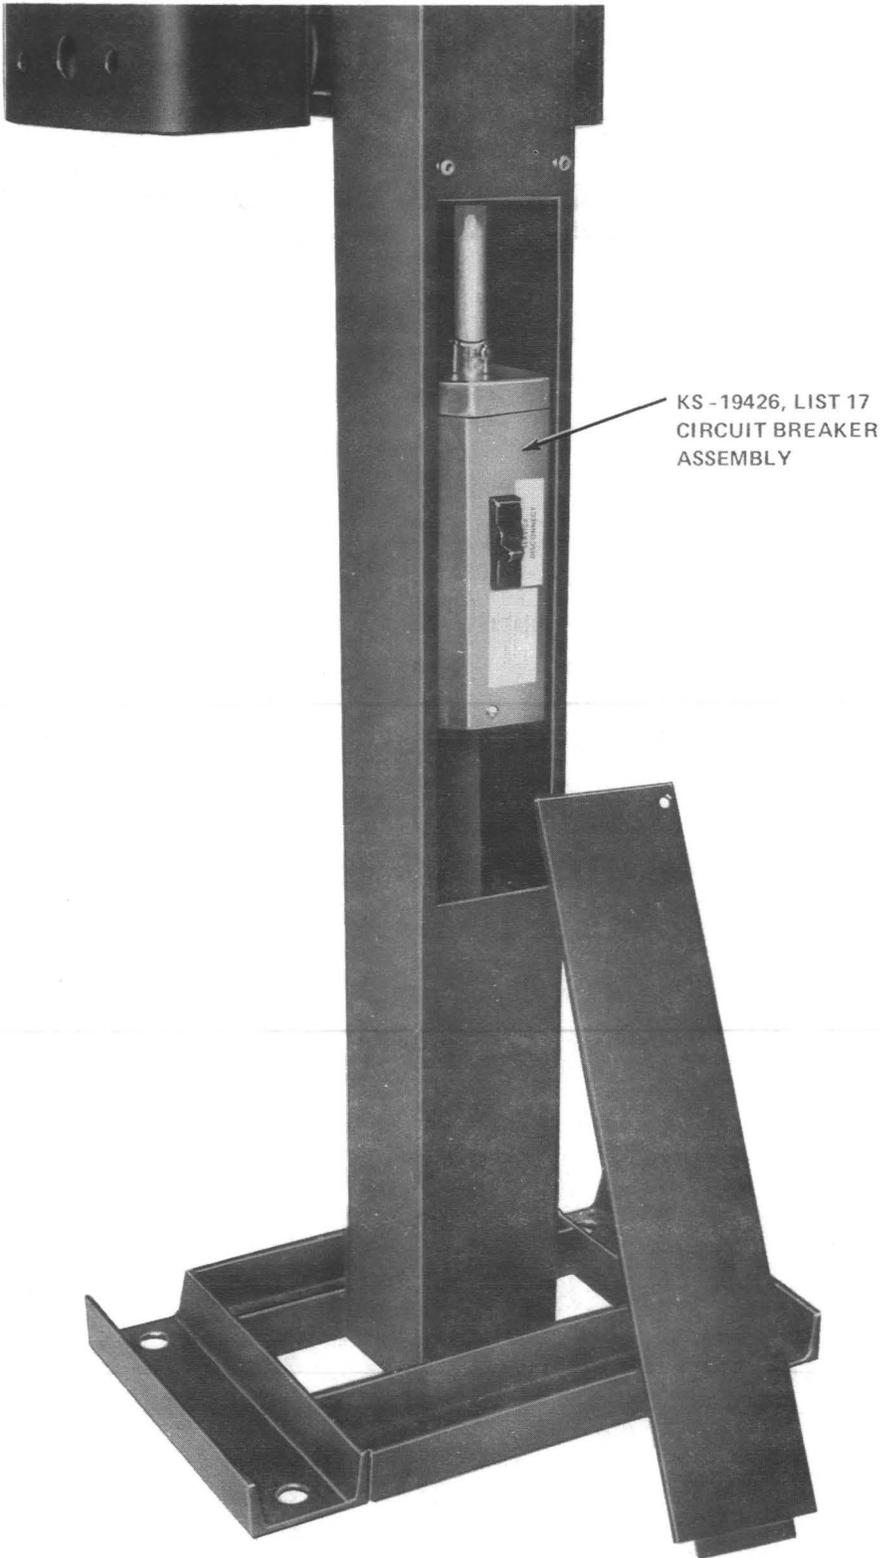

Fig. 7—Circuit Breaker Box Assembly Installed in Corral Rail
2.07 All corral rails are prewired for electricity and equipped with a KS-19426, List 17 circuit breaker box and circuit breaker (Fig. 6). This circuit breaker is located in one of the vertical tube members near the base (Fig. 7) and is installed by the supplier.